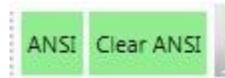

Figure 3-14. ANSI Data Toolbar
The ANSI Data toolbar consists of two (2) items as shown in Figure 3-14